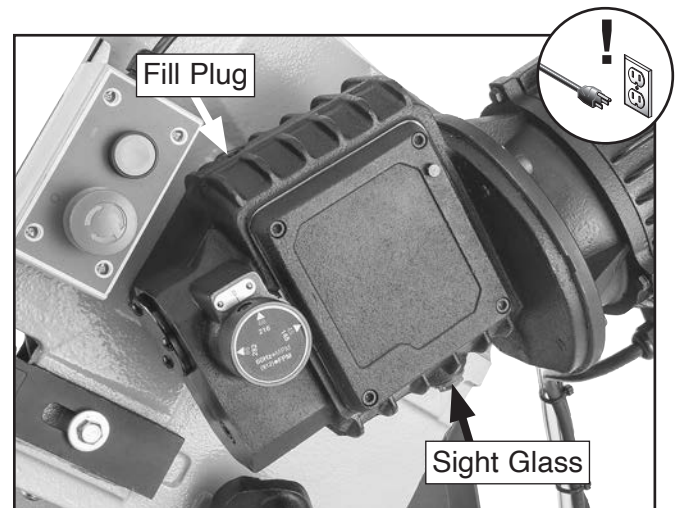

Figure 65. Location of gearbox fill components.
4. Check oil level in sight glass (see **Figure 65**).
5. Remove fill plug, add oil until it fills half of sight glass, then install fill plug (see **Figure 65**).